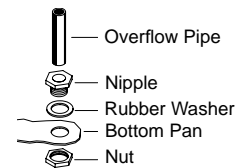

Fig. 5
- **Install overflow assembly.** Place drain nipple through the hole in the bottom pan, with the rubber washer between the pan and the head of the drain nipple (Fig. 5). Screw on nut and draw up tight against bottom of pan. Insert the overflow pipe in the nipple to retain water. The overflow pipe may be removed to drain the pan when necessary. A garden hose may be screwed onto the drain nipple to drain water away from your unit.